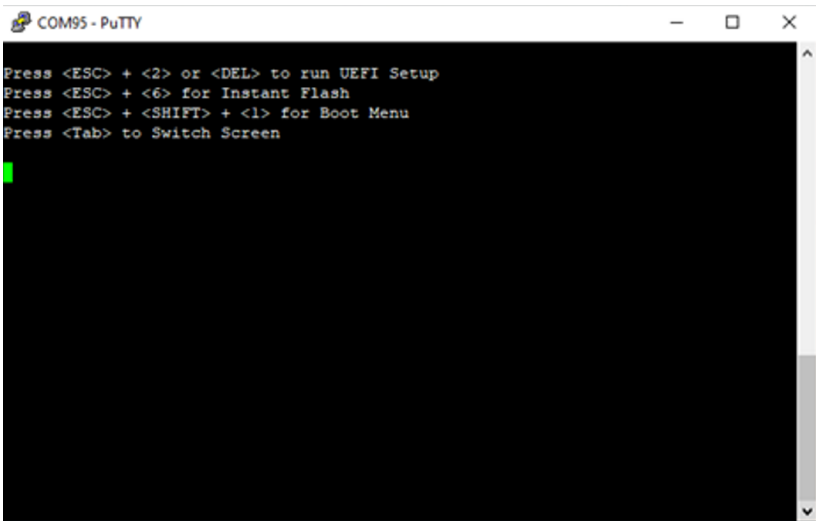

Figure 29 : Entering UEFI through COM1
- 1 COM1 is the UART port (Section 3, item 7) and it should already be connected to your Console Server device to allow for remote operation through the KVM server.
- 2 Reboot the unit and press the ESC + 2 or 'Del' to run UEFI Setup. (Figure 29)